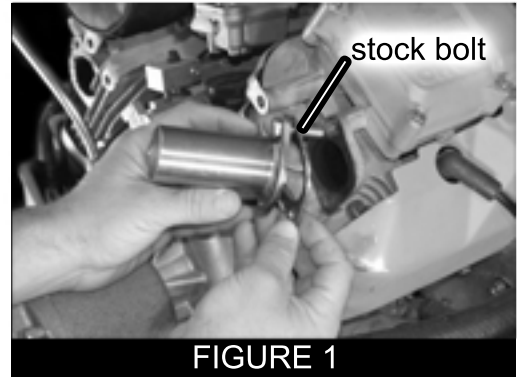

FIGURE 1
2. Install short header flange on right side, long header flange on left side using new exhaust gaskets and stock mounting bolts. (SEE FIGURE 1). Leave bolts loose enough to allow the flanges to move during installation.